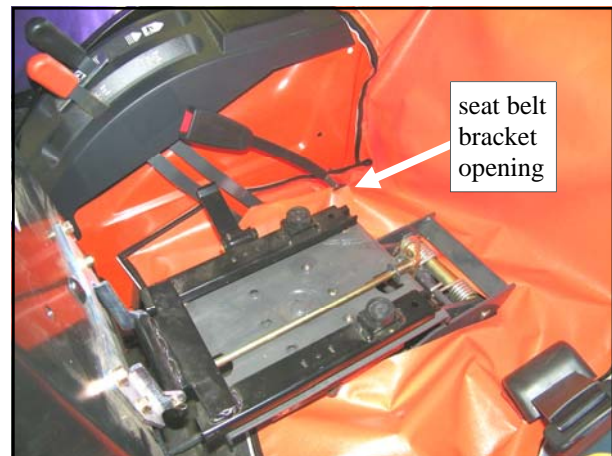
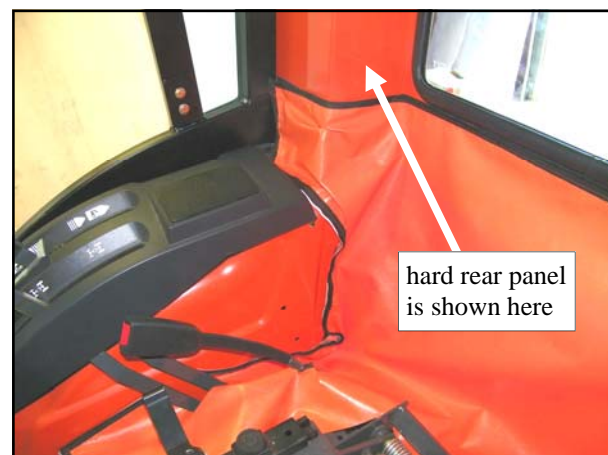

Fig. 11.1 (view from left side of tractor)
Fig. 11.1.1 (view from left side of tractor)
11.1 Per fig. 11.1, tip/raise the seat forward and position the under seat vinyl filler as shown with the seat belt bracket passing through the slit openings on each side. Dry fit this and estimate where to apply the supplied 1" wide hook velcro to the fenders, etc.. Reminder: for best adhesion, apply self-adhesive backed velcro to clean, dry surfaces at room temperature. The top middle section of the under seat filler attaches to the bottom of the soft rear curtain or to the bottom inside surface of a hard rear panel as shown in fig. 11.1.1. For the hard rear panel, install more of the supplied 1" wide velcro to suit.